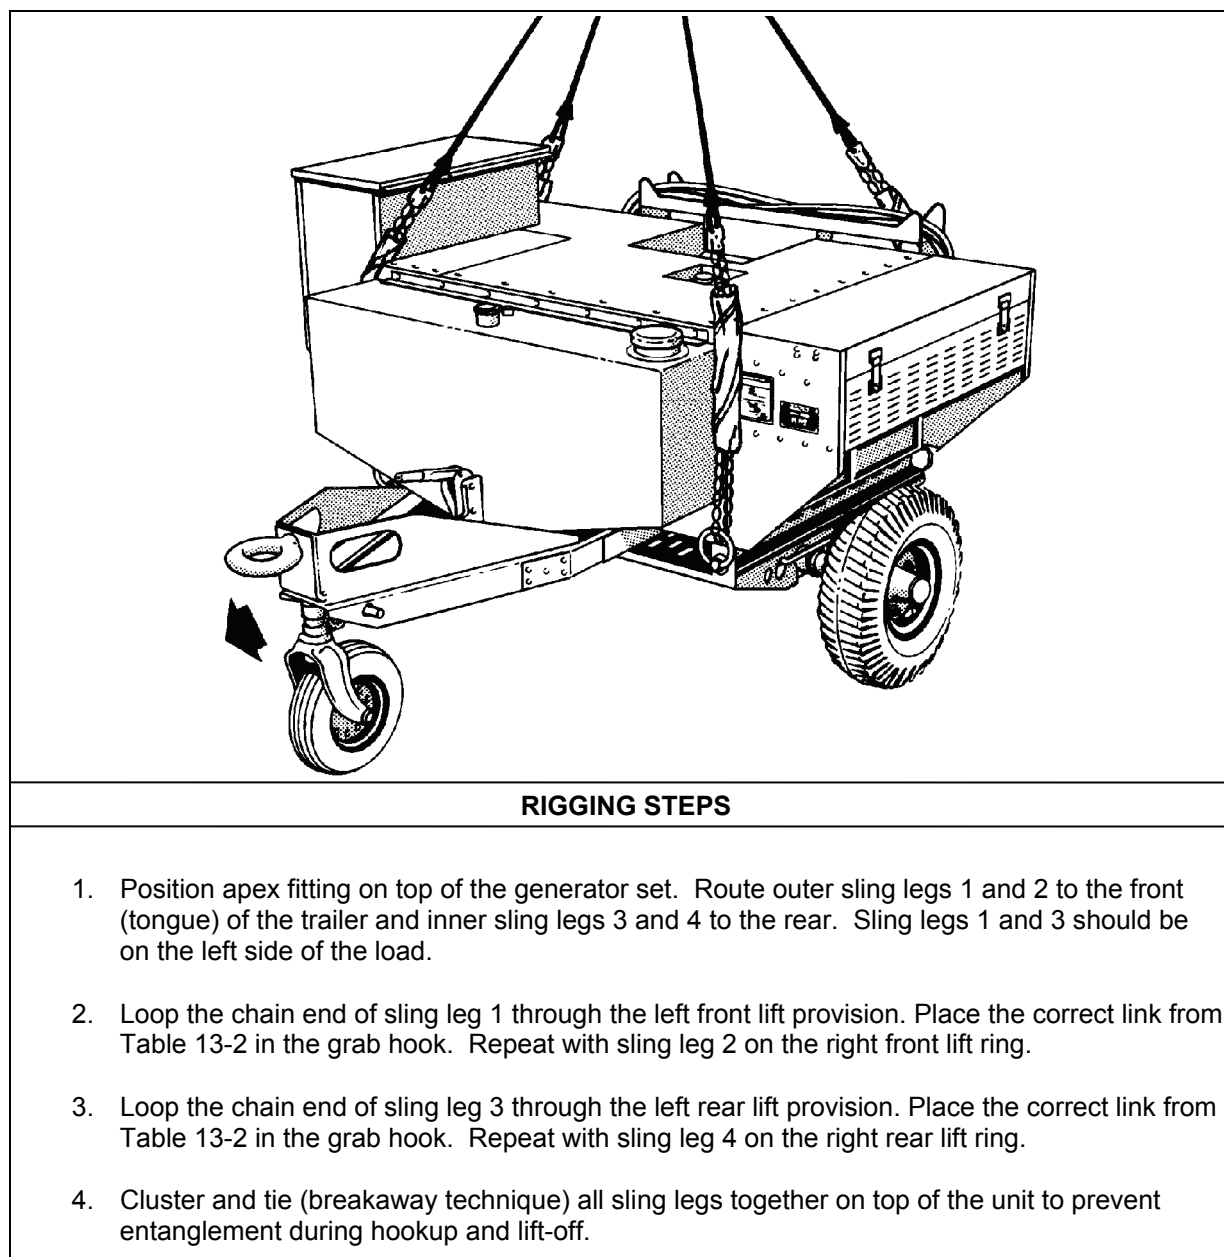

Figure 13-2. Aviation Direct Current Generator Set
- **Rigging.** Rig the load according to the steps in Figure 13-2.